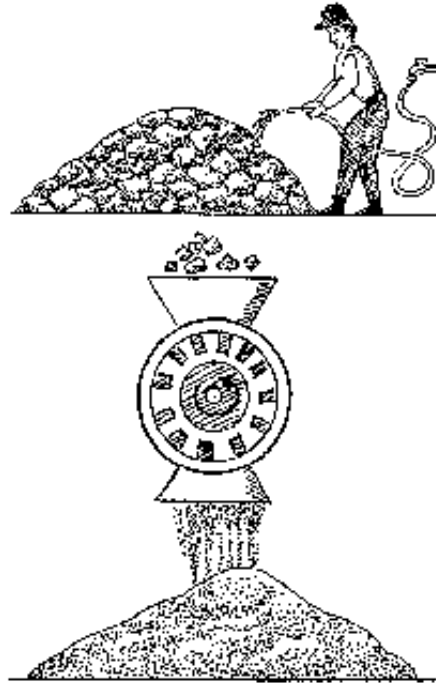

FIGURE 6.4.2-D Work flow of gypsum calcining (A; B)
FIGURE 6.4.2-C.1 A steel kettle (1) is placed on top of a firebox (2) inside a brickwork cylinder. Gypsum is loaded at (3) and plaster is discharged through a door at (4). Stirrers (5) rotate at 15 r.p.m.